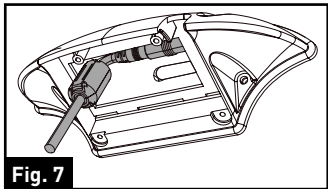

Fig. 7
7. Place the attached cables and connections into the bracket housing by first placing the cable to the right. Place the camera cable filter in the left of the bracket housing. (Fig. 7)